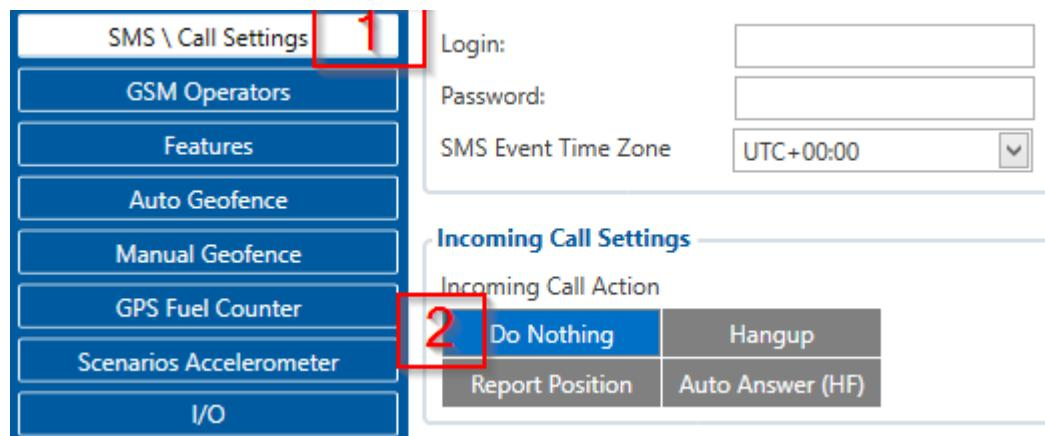

Figure 41 Incoming Call Action settings
9. Go to “SMS \ Call Settings” in left menu and set “Incomming Call Action” to “Do Nothing” visible at **Figure 41**.